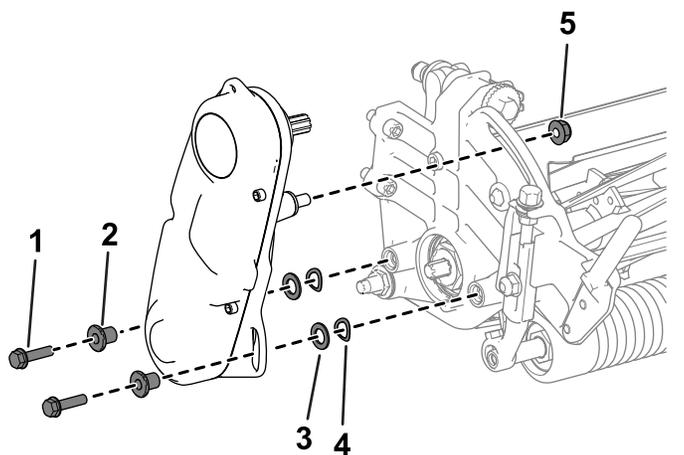

Figure 44
2. Remove the hardware that secures the reel-drive assembly to the side plate (Figure 44).
3. Remove the reel-drive assembly, flat washers, spring washers, and spacers from the side plate (Figure 44).